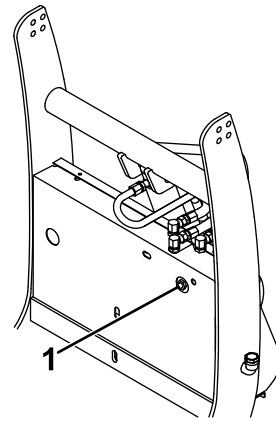

Figure 41
1. Loosen the jam nut on the back of the hydraulic manifold (Figure 41).